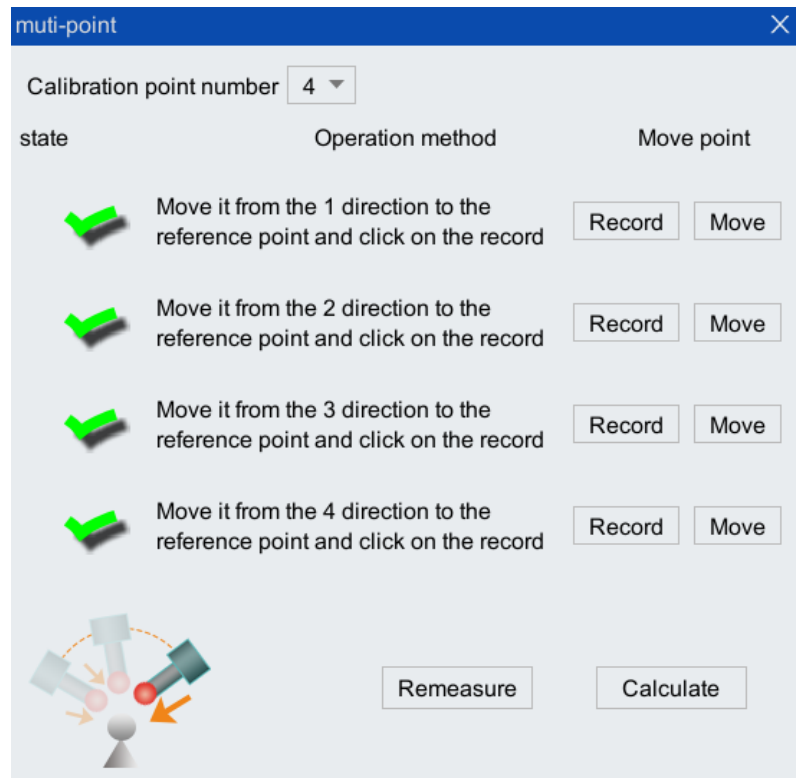

Figure 5-3 Successful multi-point calibration
Step 3. Follow the operation method prompted on the interface to complete the <Record> of each point. When all " ✘ " changes to "✔" (as shown in Figure 5-3), click <Calculate> to complete the calibration.